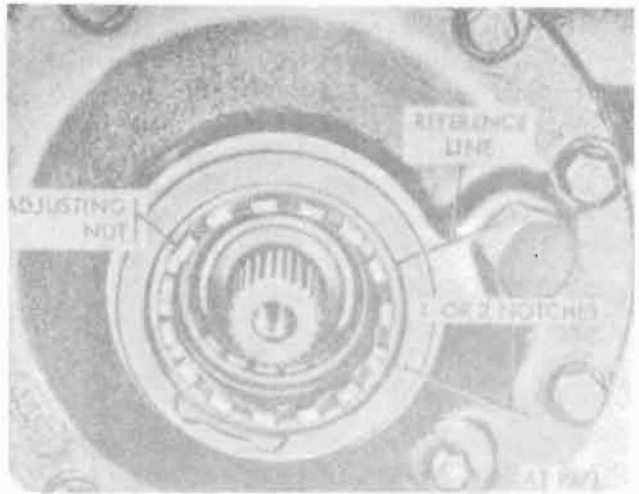

Figure 12-52. Position of tightened bearing cup adjusting nut
f. Using wrench (7345228), tighten nut clockwise. Refer to figure 12-8. Tighten nut one notch clockwise for used bearings or two notches for new bearings, using housing mark as reference point (fig. 12-52).